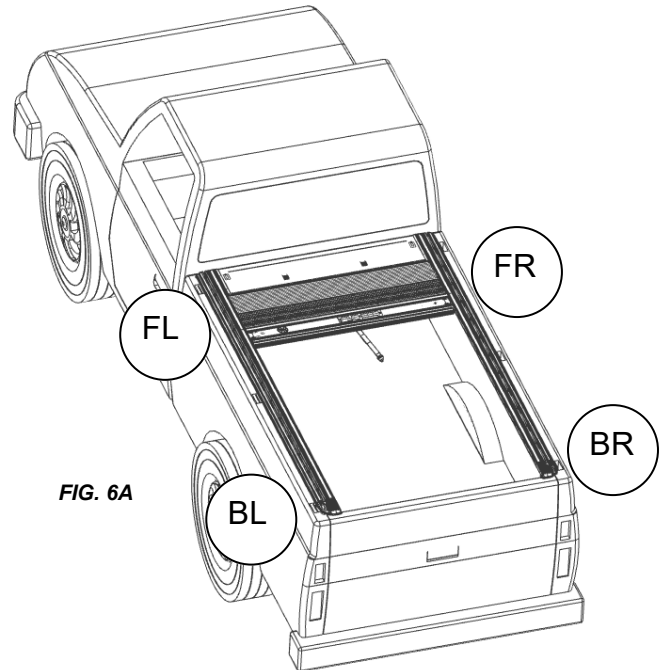

FIG. 6A
Slide the clamp extensions from the tailgate end of each rail as pictured in Figure 6A-6E. Ensure that your tailgate end and cab end extensions are in the correct orientation. Each clamp extension is labeled for front left (FL), front right (FR), back left (BL), and back right (BR). The extensions go on the corners shown in figure 6A.